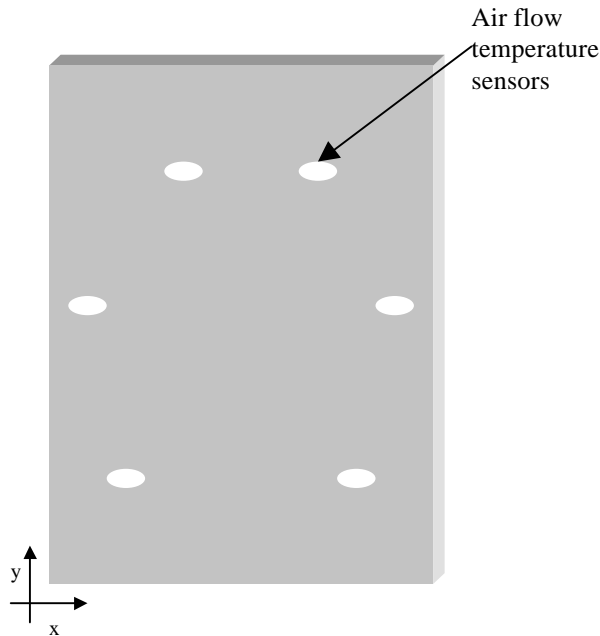

Figure 1 Sensor locations on a 6U x 160 mm board.
In an effort to confirm previous simulations results (see Sullivan and Plunkett), measurements were performed using the Cambridge AccuSense Air Temperature Monitor 24. These tests were performed in two different 21 slot enclosures with 0.8” pitch, one populated with ordinary card guides, and one populated with the new CoolSlot Card Guides. The test setup was as follows: a one U (1.75”) spacing was used from the bottom of the enclosure to the test bench, three Mechatronics F1238x12B fans spaced at two U (OD) above the card cage provides a draw-through air supply, and the sensor array was placed in slot 19. Slot 19 was chosen due to its ‘average’ performance; as opposed to slot 1 or slot 11, which are generally the min and max performers, respectively. Six sensors were arranged on a piece of FR4 as shown in Figure 1.